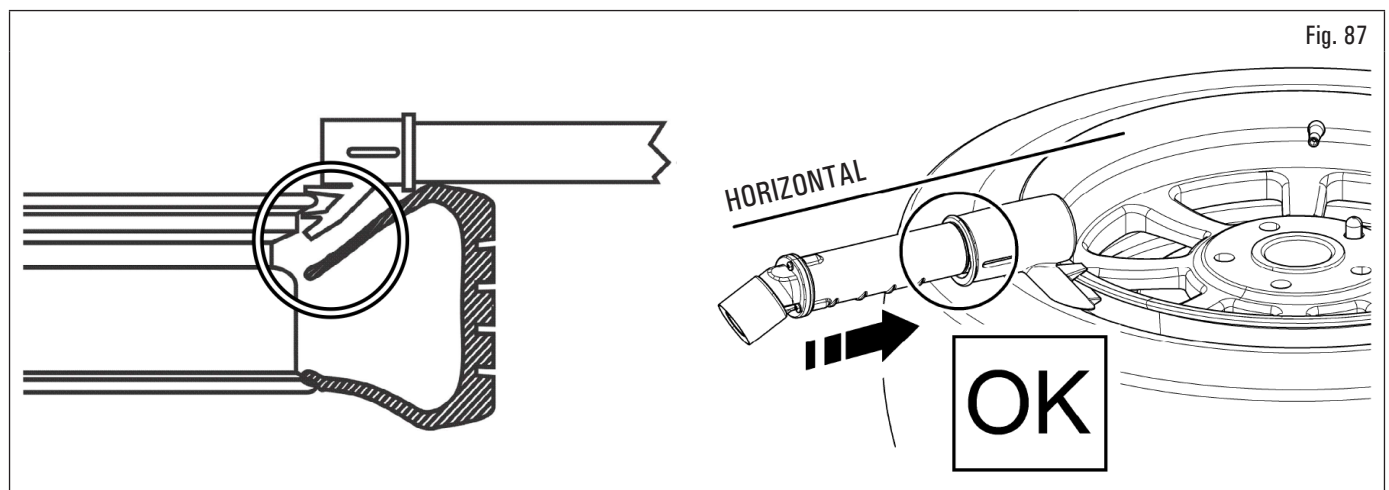

Fig. 87
3. press the bead blaster hose on the wheel rim as shown in Fig. 87. Ensure the hose head is pressed in to activate the additional air jet;
The nozzle should be horizontal for optimal performance (see Fig. 87).